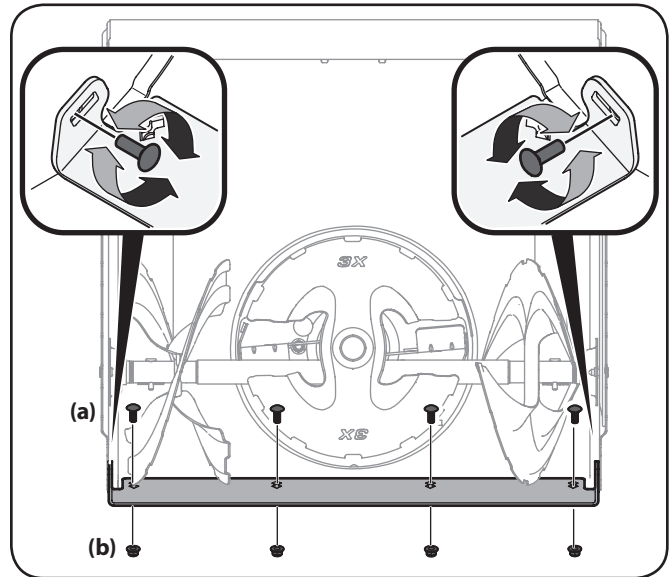

Figure 6-2
3. Remove the carriage bolts (a) and flange lock nuts (b) which attach it to the auger housing. See Figure 6-2.
4. Reassemble new shave plate, making sure heads of carriage bolts are to the inside of housing. Tighten securely. See Figure 6-2.